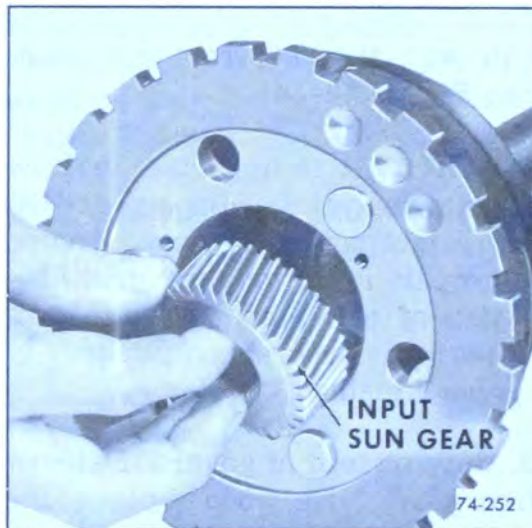

Figure 74-252
7. Remove input sun gear. See Figure 74-252.